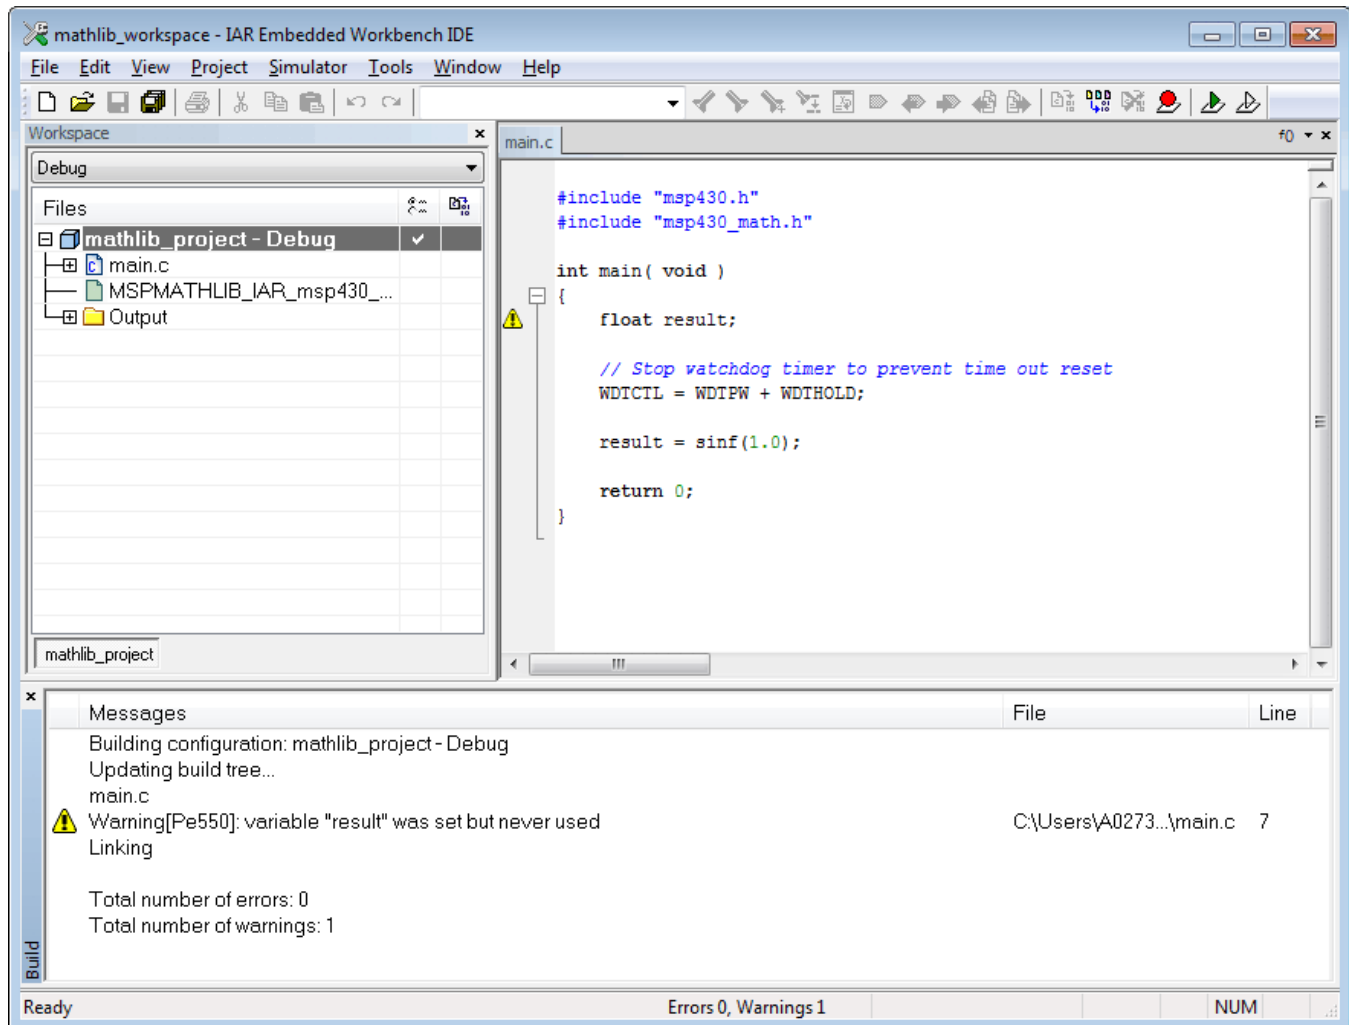

Figure 11. Build Project
7. You can now build the project (see Figure 11). The MSPMATHLIB functions are linked in place of the standard math.h functions.